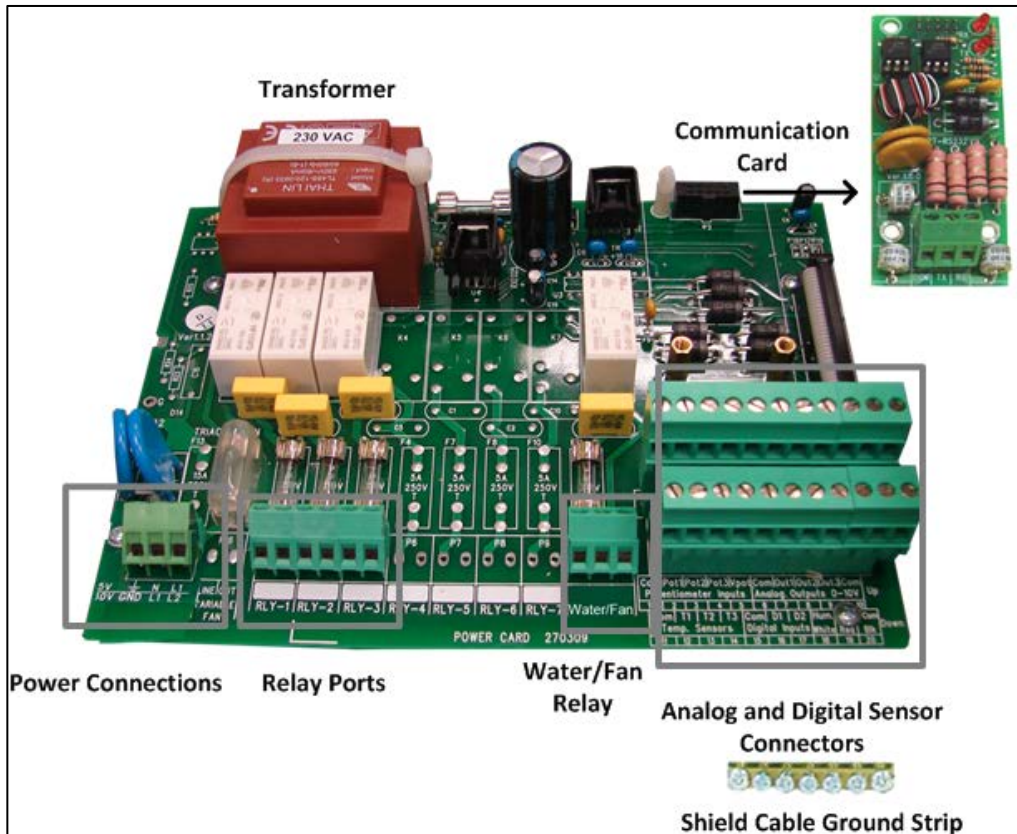

Figure 3: RTDC-4 Board Layout
- Figure 3: RTDC-4 Board Layout